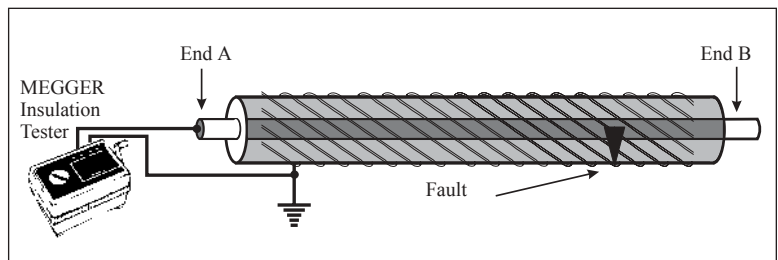

Figure 7: Test for insulation (fault) resistance using a Megger® insulation tester
- At end A, connect the instrument between the faulted conductor and ground as shown in Figure 7. Using an insulation resistance range, measure and record this resistance reading.